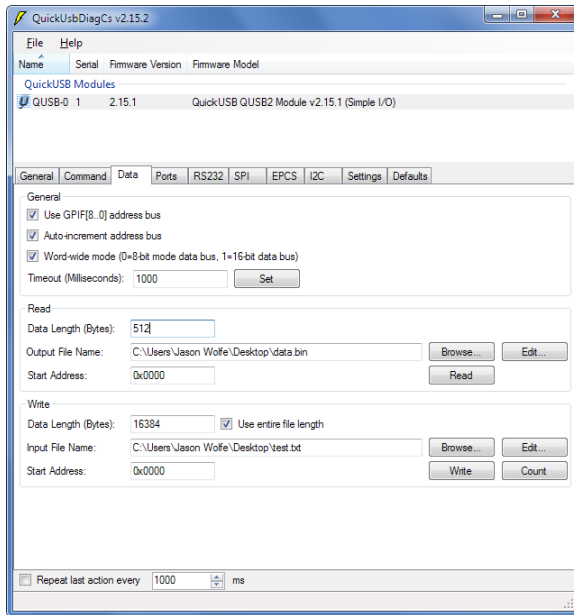

Figure 5 – QuickUSB Diagnostics "Data" Tab
- a. Navigate to the “Data” tab. Check the “Word-wide mode” checkbox if it is not already checked (see Figure 5). This will enable the QuickUSB Module to be in Word-Wide mode and use a 16-bit data bus.